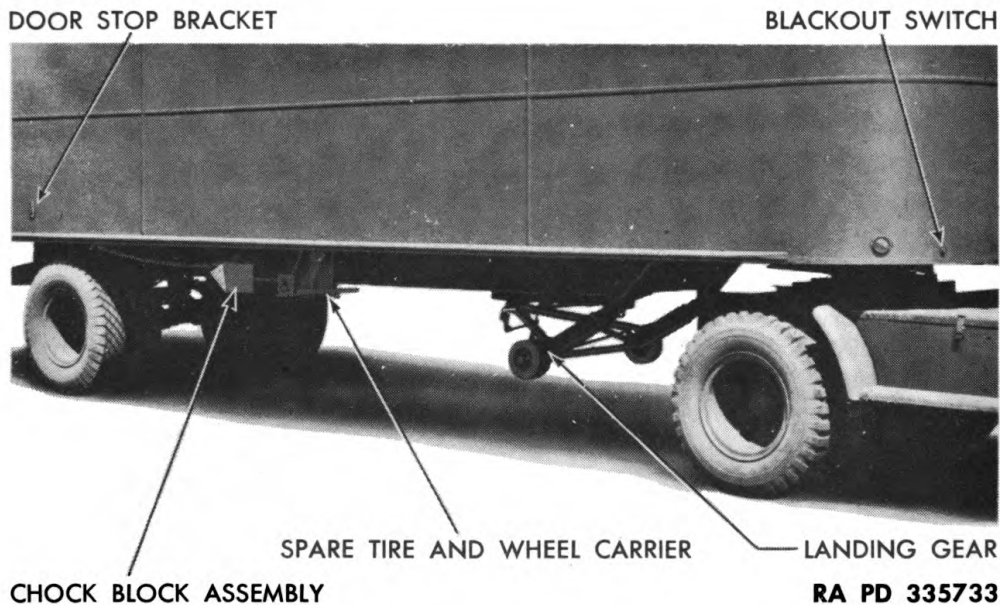
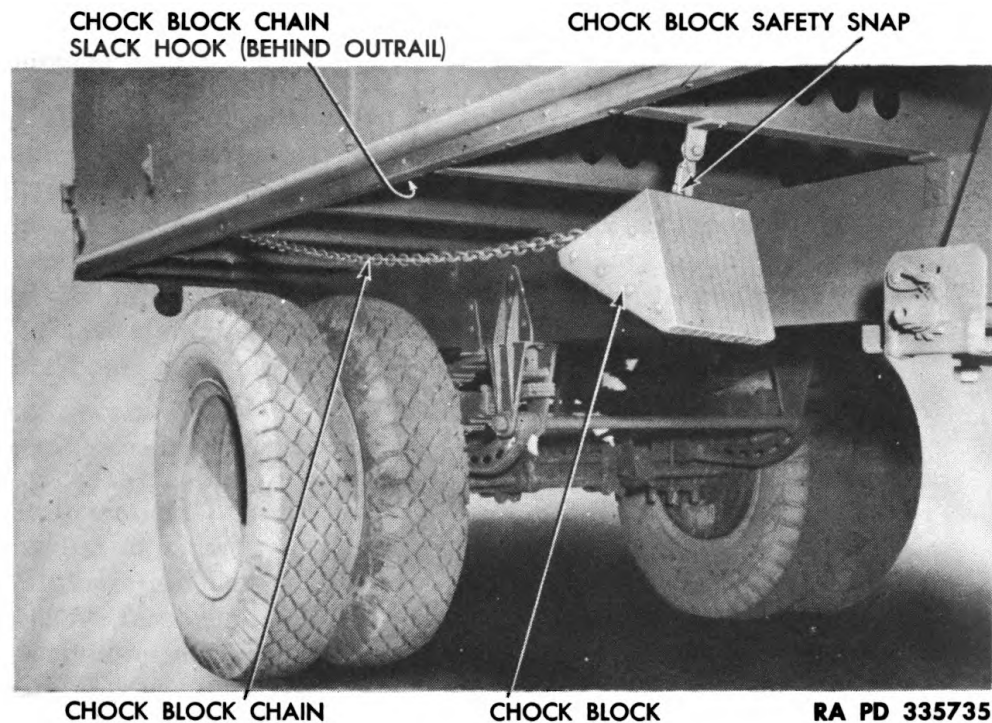

Figure 5—Controls—Right Front
Figure 7—Chock Block Assembly
c. Chock Blocks. Two chock blocks are provided to prevent accidental movement of the semitrailer when uncoupled from the tractor truck. One block (fig. 5) is located on each side of the semitrailer, attached by chains to the frame at points approximately above the axle spindles. When not in use, the blocks are suspended beneath the van body by self-latching snaps located a sufficient distance in front of the wheel line to take the slack from the supporting chains (fig. 7). The chock block chains are of adequate length to permit the
d. Trailer Blackout and Marker Light Switch. The blackout switch is located at the front of the van body on the right or curb side (fig. 5), 30 inches from the front center line on which the coupling socket is located. The switch is operated by means of a screwdriver or similar tool inserted in a slot in the switch head (fig. 4). This switch has no off, or neutral position. It is either on blackout position or standard light position. The blackout circuit is energized and controlled from the towing tractor truck.
f. Retractable Landing Gear. The retractable landing gear is lowered by a hand crank which operates a worm screw. Its function is to support the front of the semitrailer when disconnected from the tractor truck (fig. 5). It must be fully lowered before the tractor truck is detached, and must not be operated while supporting the
(4) Carefully inspect both jaws of the locking device on the tractor truck fifth wheel to see that they are fully closed. Check locking handle to see that it is in locked position.
(5) Release trailer brakes and replace chock blocks upon supporting snaps. Move tractor truck forward a few feet to exert load tension on kingpin, then stop.
(6) Again examine locking device on fifth wheel to see that it is in place.
(7) Connect light jumper cable of tractor truck to semitrailer by plugging into socket. Test trailer lights.
(8) Raise landing wheels to full road clearance. Hook landing wheel operating crank under body of semitrailer into its suspension hook (figs. 5 and 9).